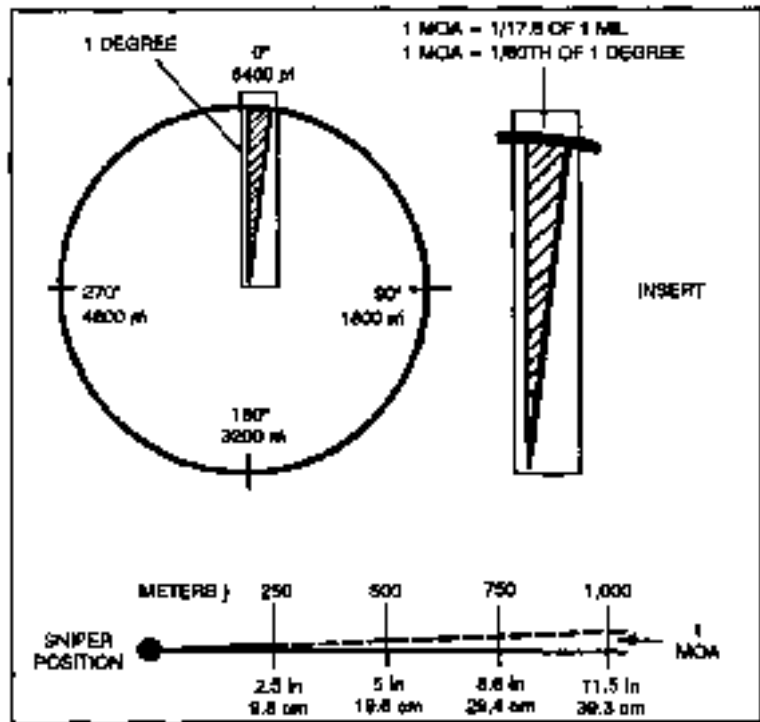

Figure 3-22. Minutes of angle.
a. Snipers use minutes of angle (Figure 3-22, page 3-34) to determine and adjust the elevation and windage needed on the weapon's scope. After finding the wind direction and velocity in miles per hour, the sniper must then convert it into minutes of angle, using the wind formula as a rule of thumb only. The wind formula is—